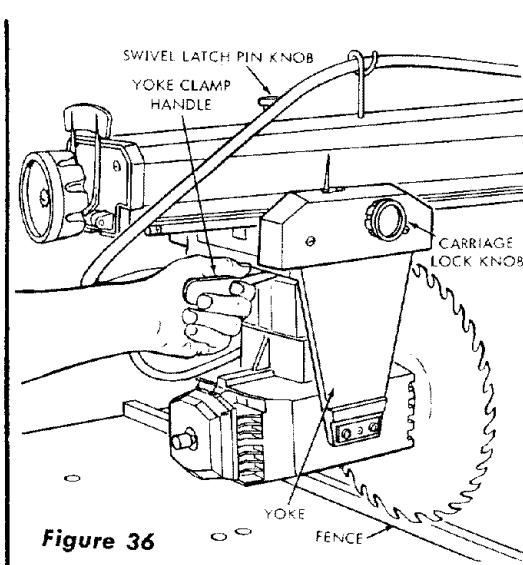
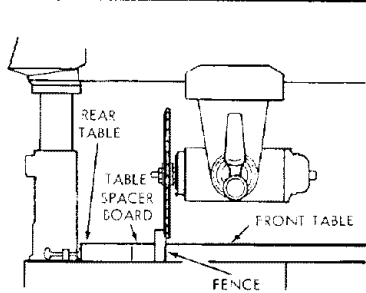
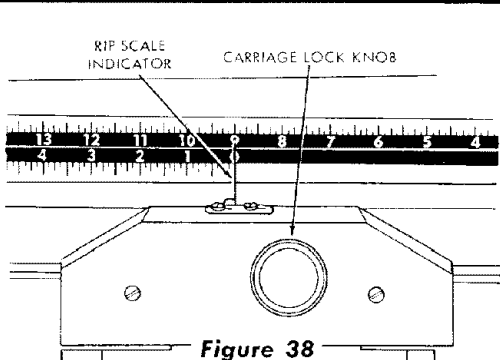

Figure 36
Figure 37
Figure 38
- a. With the fence in its normal position (next to the front table), loosen the yoke clamp handle (figure 36), lift up on the swivel latch pin knob and rotate the yoke as shown to index the yoke 90° from the cross-cut position. This will locate the saw blade between the motor and the fence. Lock the yoke by tightening the yoke clamp handle. (See figure 36.)
- b. Loosen the carriage lock knob (figure 36) and move the motor until the edge of the blade, when spun by hand, just touches the front face of the fence. (See figure 37.) The rip-scale indicator (on the right-hand side of radial arm) should now read "0"-inches on lower portion of the "In-Rip" scale. (See figure 38.) If not, loosen screws and shift the indicator until it is aligned with the "0" mark, then tighten the screws.
**NOTE:** With the saw blade and fence in the position shown in figure 37, the lower portion of the "In-Rip" scale is used. If the fence is re-located at the extreme rear position, the upper portion of the "In-Rip" scale would be used.